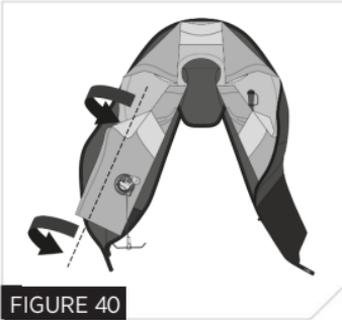

FIGURE 40
16. Fold and tuck the outside edge under, along Fold Line 4 (Fig. 40).